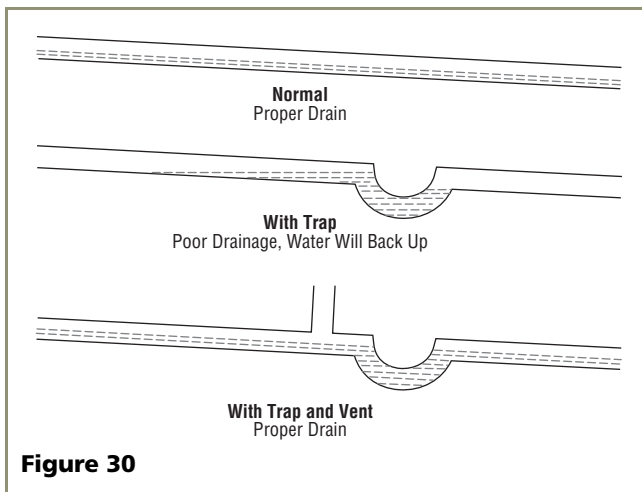

Figure 30
- Drain line does not create traps or created traps are vented (see **Figure 30**).